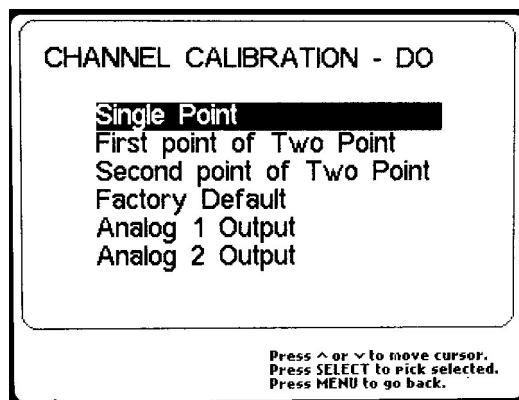

Figure 24 - Channel Calibration (D.O.)
3. On the CHANNEL CAL menu screen (Figure 24), SINGLE POINT Calibration should already be the highlighted option, press SELECT.
3. From the CHANNEL CAL menu screen (Figure 24), press the down arrow key until the FACTORY DEFAULT option is highlighted, then press SELECT
5. From the CHANNEL CAL menu screen (Figure 24), use the up arrow key to highlight the FIRST POINT OF TWO POINT option, then press SELECT.
9. From the CHANNEL CAL menu screen (Figure 24), use the up and down arrow keys to highlight the SECOND POINT OF TWO POINT option, then press SELECT.